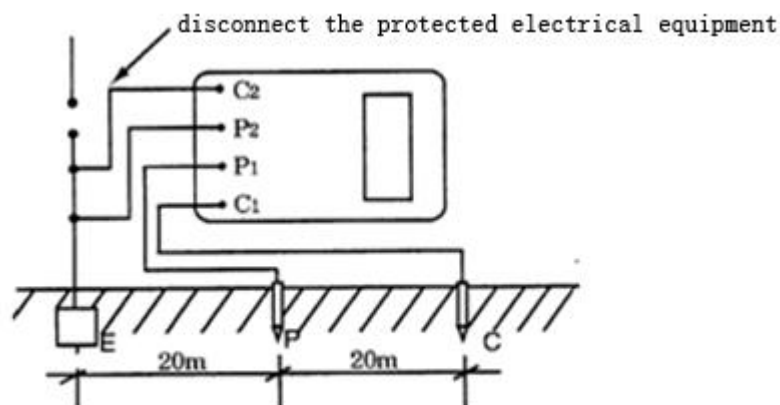

Figure 1
1. Grounding resistance measurement (Fig. 1)
As Fig.1, the straight-line distance between ground electrode E (C2, P2) and current probe C1 is 40 meters. Put potential probe P1 on the center of E, C, so that E, P, C is 20 meters away from each other and make sure potential probe P1 grounded properly.
Wiring as Fig. 1, pull out the plug C1, insert the plug between E, P1, and start the ground voltage gear (EV), the indicator lights. The reading on LCD is AC ground voltage value between E, P1.